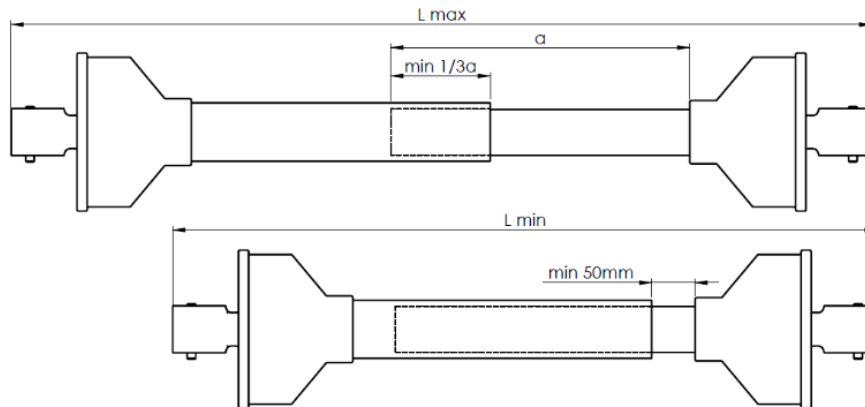

Figure 16. Adjusting the length of the shaft when the spreader is connected to the tractor
- make sure that the PTO shaft transmitting the tractor's drive is of sufficient length when connected in all possible positions of the tractor in relation to the machine (Figure 16).